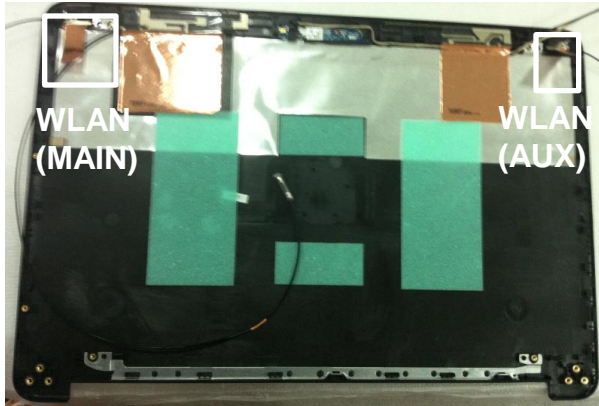

Fig.1
1. Rip the WLAN AL foil, disassembly WLAN antenna (Fig.1) and recycle it .